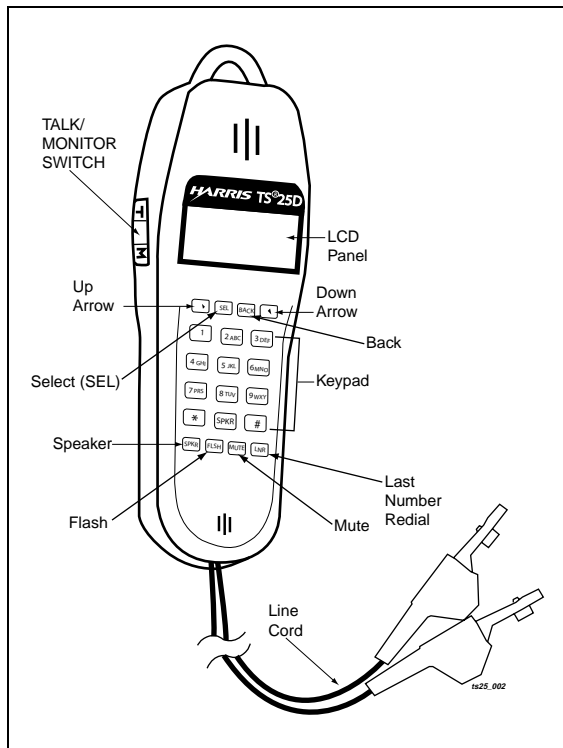

Figure 1. TS25D Test Set Illustrated
The TALK/MONITOR (T/M) switch is a slide switch located on the left side of the test set (see Figure 1). Switching the TALK/MONITOR switch to the TALK (T) position puts the test set into Talk mode. Switching the TALK/MONITOR switch to the MONITOR (M) position puts the test set into Monitor mode. The center position of the switch is OFF.
The test set is equipped with a field replaceable line cord. The line cord is attached to the test set at the transmitter end of the test set (see Figure 1).
Numeric Keypad	The numeric keypad (see Figure 1) is used to dial telephone numbers and make function selections. The numeric keypad includes 12 standard dialing keys including the asterisk (*) and the pound (#) keys.